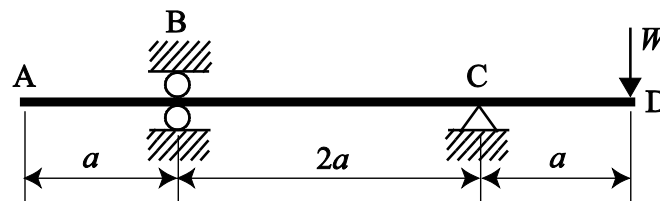

Figure 2
* 2. The uniform elastic beam (flexural stiffness B) shown in Figure 2 is loaded by a single force W at one end. The supports are able to provide upwards or downwards reactions, as required. Find the vertical deflections of the two tips of the beam on account of the applied load. (Hint. Begin by ignoring portion AB entirely.)